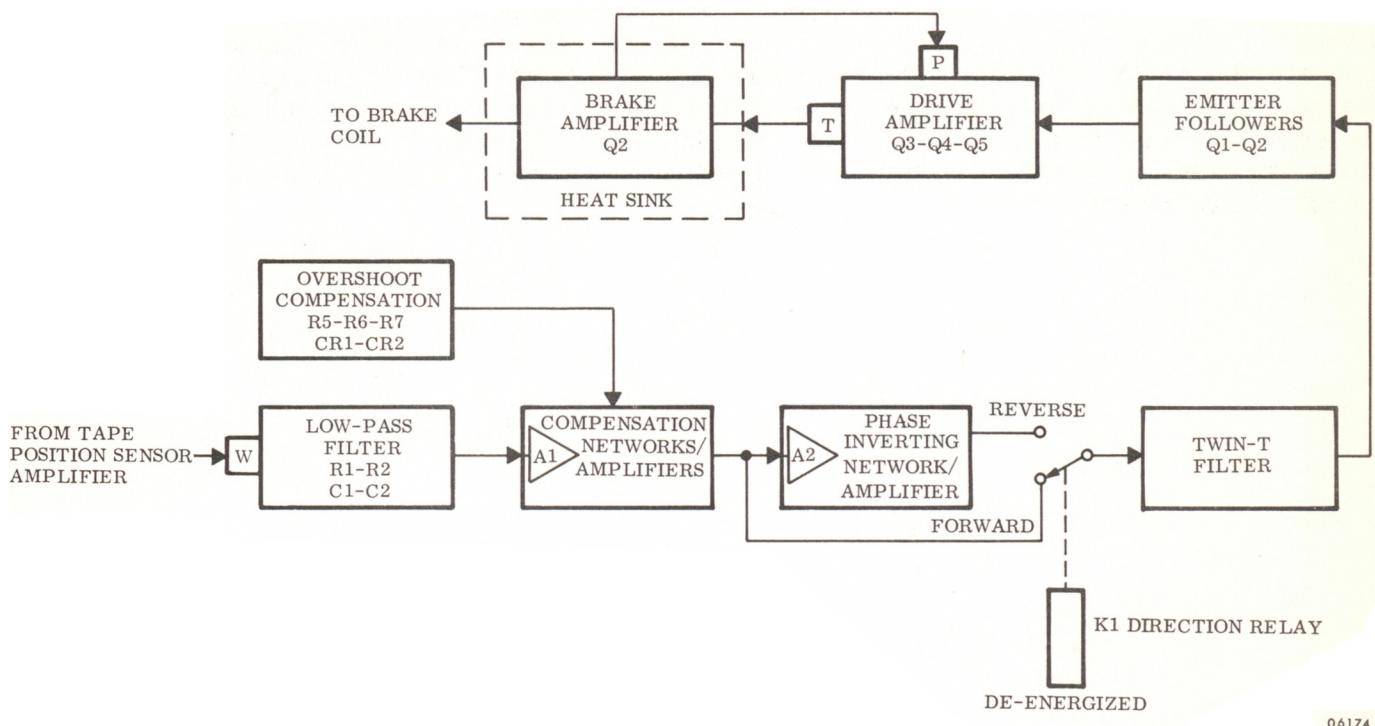

Figure 4.2-13. Typical Reel Servo Circuit (Block Diagram)
4.2-44 The reel servo system employs two identical reel servo circuit cards, one for the upper reel servo and the other for the lower reel servo. The circuits on these cards control the current to the upper and lower reel drive motor brakes in response to feedback from the tape position sensor assembly. Since the reel servo circuit cards are identical, both in function and operation, only the upper reel servo circuit is discussed in the following paragraphs. See Figure 4.2-13.